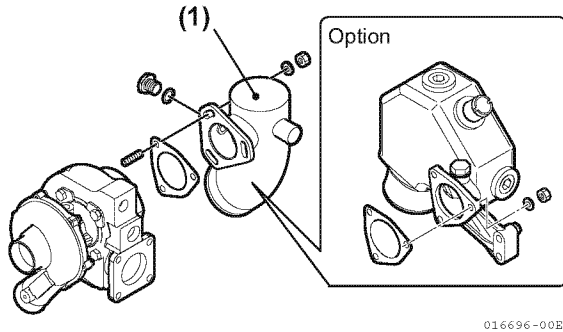
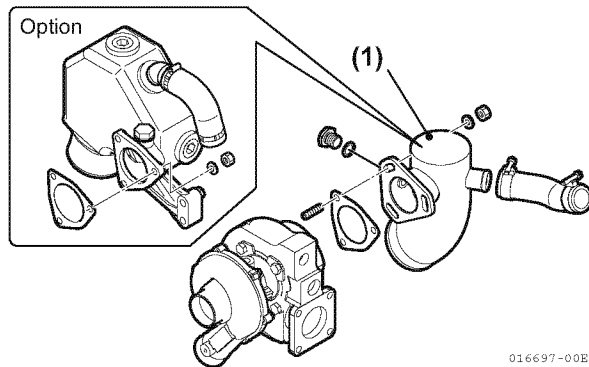

Figure 9-5
Figure 9-6
- Remove mixing elbow for 4JH4-TE (Figure 9-5, (1)) and 4JH4-HTE (Figure 9-6, (1)). See *Remove cooling system components from engine.* on page 5-26.